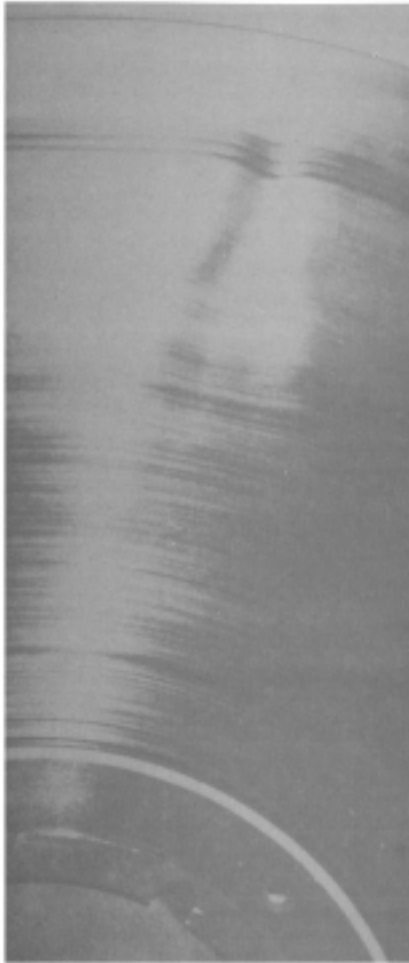

Figure 2-4.—Example of spoked tape pack.
Spoking happens when magnetic tape is wound onto the tape reel with the tension increasing toward the end of the winding. The higher tension on the outside of the tape pack causes the inner pack to buckle and deform. Spoking is also caused by the uneven pressures created when a tape is wound on a reel that has a distorted hub, or when the tape is wound over a small particle that is deposited on the hub. Figure 2-4 shows a spoked tape pack.
- Q-25. A tape pack is buckled and deformed as shown in figure 2-4. What are three possible causes for this condition?*